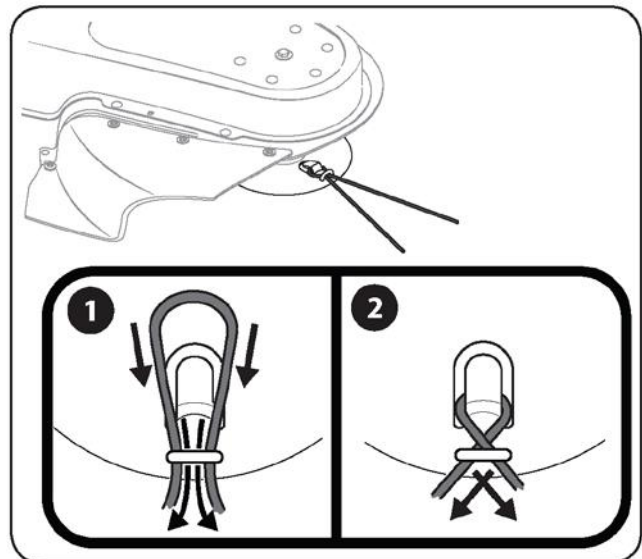

Figure 5-2
4. Cross the two ends of the line and tighten the ends to hold the line in place. See figure5-2.